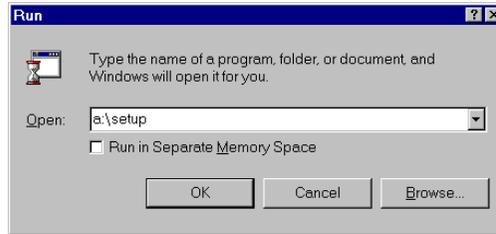

Figure 3-19. Starting the Installation Program
2. Select **Start-->Run** at the Desktop. The Run dialog box appears (Figure 3-19).